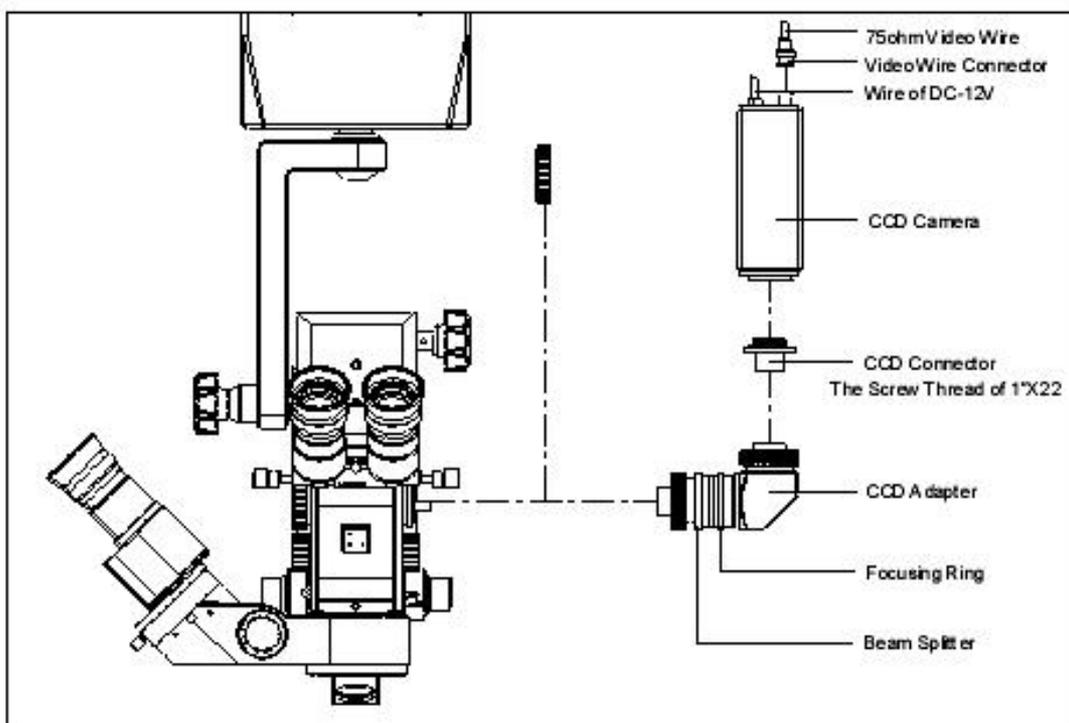

Fig.8
3. Take out the CCD adapter from the package, and insert it into the beam outlet hole according to the direction displayed in the figure 8, then rotate the screw flange firmly. Rotate down the original camera lens and screw flange of the CCD camera, and place them appropriately. Insert the connector for the camera head into the assembly position and fasten it.
14. Assemble the CCD according to the above-mentioned process if it is needed. The CCD device is indicated in Fig.8. Maybe the image in the monitor is not clear, so rotate the focusing loop of the CCD tie-in. If the image is too bright or dark, adjust the aperture adjustment loop of the CCD tie-in. Adjust the focusing loop and the aperture adjustment loop time and again till the best image.